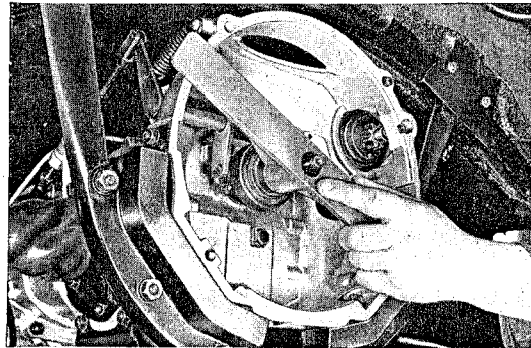

Fig. 275
3. Adjust the clutch release bearing 50 mm ( $1\frac{31}{32}$  in.) back from face the clutch housing using tool P 35a. Adjustment is made by shortening or lengthening the clutch cable clevis (Fig. 275). Do not tighten the cable clevis past the end of the threads where it will bind with the lever. Secure the clevis by tightening the lock nut, inserting the clevis pin locking it with the spring clip.